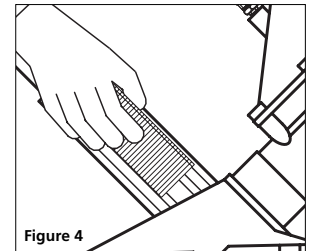

Figure 4
2. Place the specified type and size of L cleats in the magazine from side. The head of the L cleats should be inserted into the notch on the fixed magazine (See figure 4).